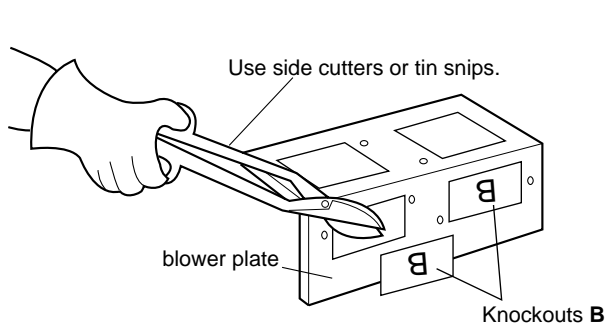

Figure 15
7. Use side cutters or tin snips to cut and remove knockouts marked **B** from blower plate. Discard knockouts. Be careful not to distort the plate. See Figure 15.